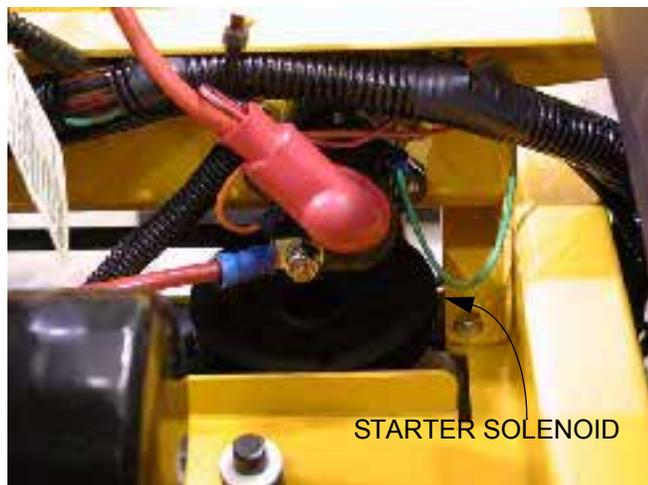

Figure 10.16
10.16. The starter solenoid is located near the right rear corner of the control console. See Figure 10.16.